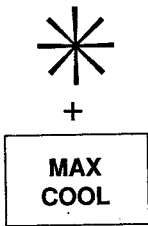

Figure 17
- a. To set MAX COOL mode, press START (*) pad; press MAX COOL pad. Indicator light will glow. See Figure 17.